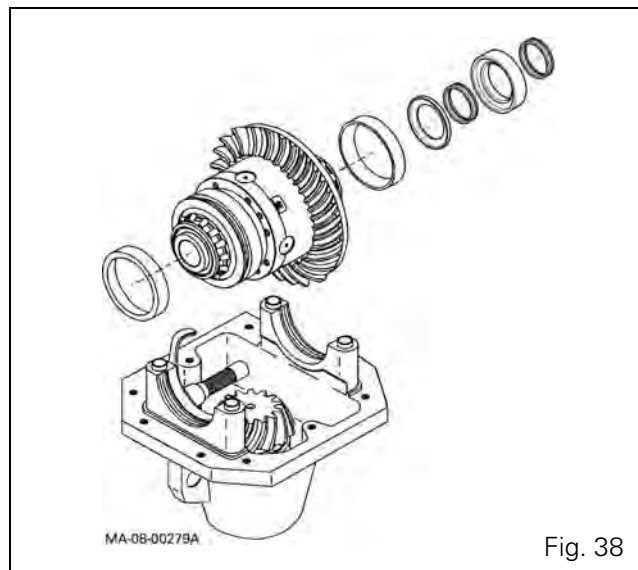

Fig. 38
44. Fit the external tapered roller bearing cups on the two differential bearings and install the washer and spacer on the crownwheel and pinion side with new seals, previously smeared with a thin layer of grease (Fig. 38).